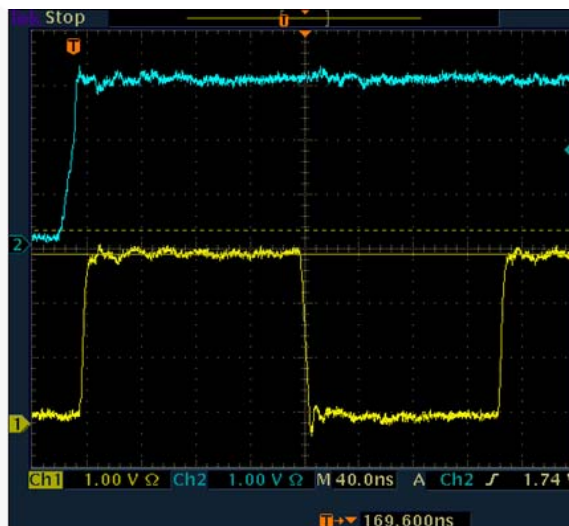

Figure 14. Scope Shot of I/O and Clock Signals
Due to open-drain technology, hosts and SIM cards do not use push-pull drivers on the I/O pin. Logic LOWs are pulled down (I_{sink}), while logic HIGHs are “let go” (3-state). During a logic LOW on the I/O pin, both series NpassGates are turned on and act like a very low resistive short between the host and the SIM card. When the host or card lets go of a previously held LOW on the I/O pin, the rise time is largely determined by the RC time constant, where R is the external pull-up resistor and C is the I/O signal trace capacitance. The value of RPU is to be chosen to not exceed 1 mA maximum I_{OL} per ISO7816-3 compliance testing. The FXLA2204 acts as a very low resistive short between the host and SIM card (during a LOW) until either of the port's $V_{CC/2}$ thresholds are reached. After the RC time constant has reached the $V_{CC/2}$ threshold of either port, the port's edge detector triggers both dynamic drivers to drive their respective ports in the LOW-to-HIGH (LH) direction, accelerating the rising edge. The resulting rise time resembles the CH2 waveform (blue) of Figure 14. Effectively, two distinct slew rates appear in the rise time. The first slew rate (slower) is the RC time constant of the I/O signal trace. The second slew rate (faster) is the dynamic driver accelerating edge.